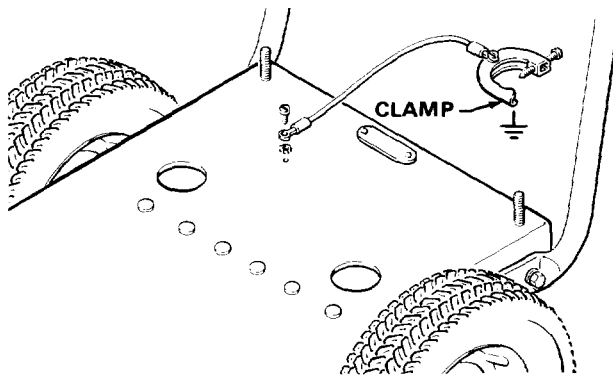

Fig 1
1. *Sprayer*: connect the ground wire and clamp (provided) to a true earth ground. See Fig 1.